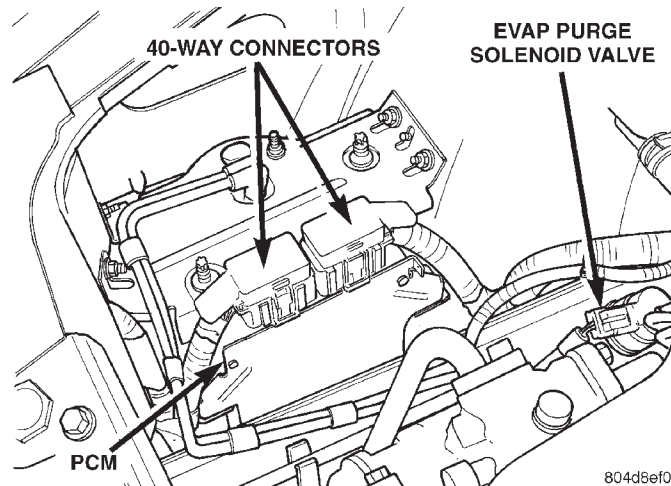

Fig. 48 EVAP Canister Hose Connections
(13) Inspect the air cleaner filter element. Replace as necessary.
(14) Inspect hose connections at the EVAP canister for leaks (Fig. 48). Remove the air cleaner to access the EVAP canister.
(15) Verify the 2 40-way connector is fully inserted into the Powertrain Control Module (PCM) (Fig. 48).